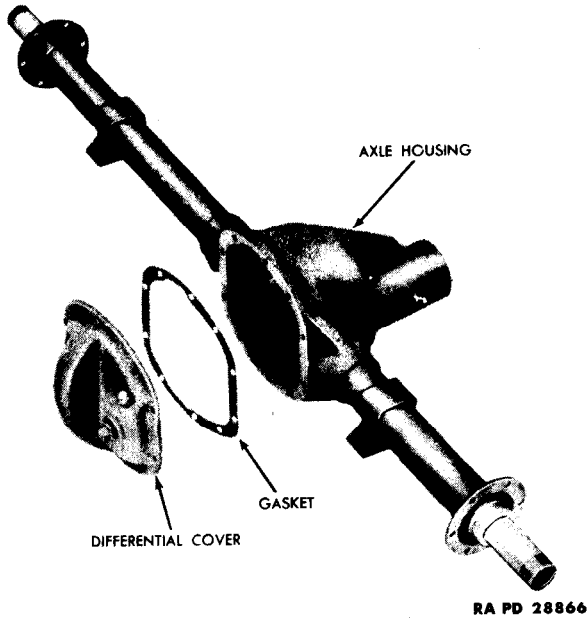

Figure 79 — Rear Axle Housing
(1) **AXLE HOUSING AND COVER** (fig. 79).